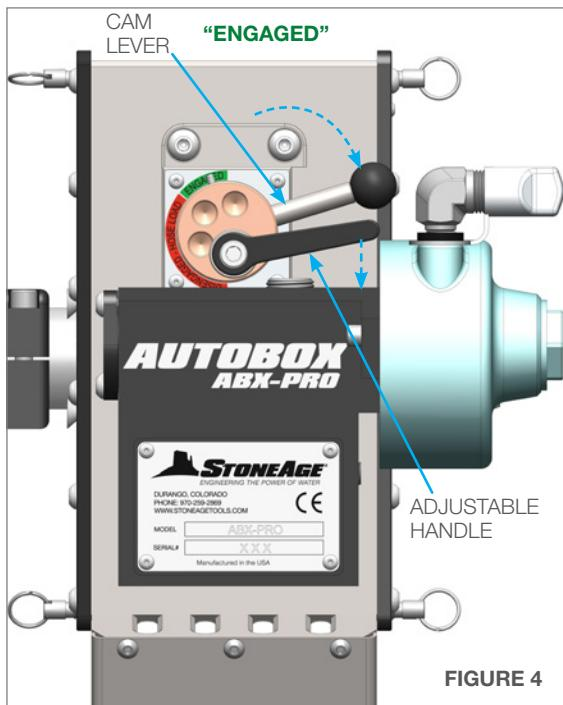

FIGURE 4
4. Rotate the Cam Lever clockwise to the “**Engaged**” position to tighten the Idler Roller down onto the hose. Push the Adjustable Handle down to tighten the bushing assembly. (**Figure 4**)